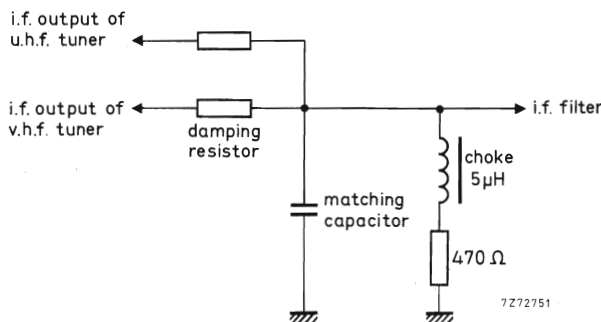

Fig. 12.
The tuner needs a d.c. path from the i.f. output terminal (T) to earth, preferably via a choke of approx. 5 μ H outside the tuner (Fig. 12).
In the case where the tuner is used in combination with a u.h.f. tuner, this choke can be common for both tuners; a resistor in series with the choke can make ineffective the i.f. output circuit of the switched off tuner. For damping the i.f. output circuit and matching the i.f. output impedance of the tuner to the i.f. amplifier, a series resistor and a parallel capacitor as shown in Fig. 12 should be used.